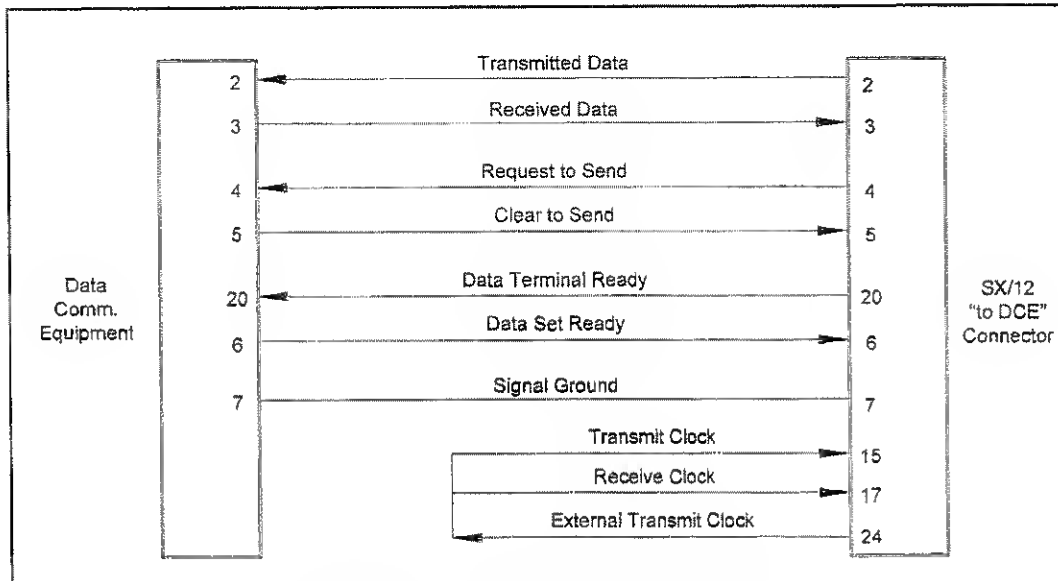

Figure 3.0 Asynchronous RS-232c Patch Cable
2. Using a break-out box or a modified cable on the West "to DCE" connector, connect the external transmit clock signal to the transmit and receive clock signals as shown in Figure 3.0 . Also connect the Data Communications Equipment to this connector.